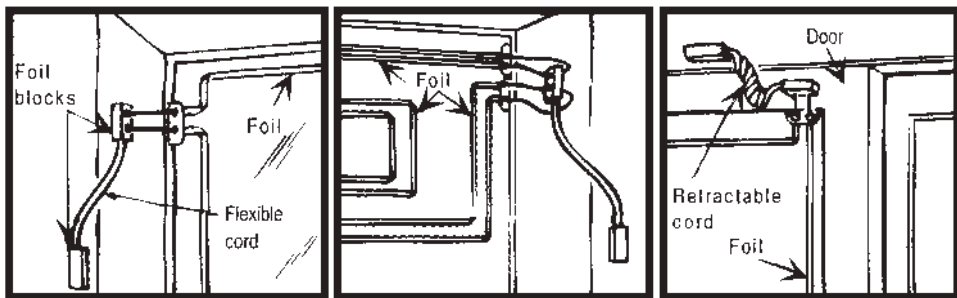

Figure 5.15 Conductive foil on glass doors.
*Conductive Foil on Glass Doors (Fig. 5.15):* A self-adhesive foil block (terminator) on the door is connected to a similar unit on the door frame by a short length of flexible cord to allow for door movement. The foil is connected in the positive conductor of the protective circuit and is adhered to the glass parallel to and about 3" from the edge of the glass by using varnish. Breaking the glass cuts the foil and opens the circuit. To provide more coverage, a double circuit of foil may be taken from the foil block. Coiled, retractable cords are available for use between foil blocks to allow for sliding-door travel.